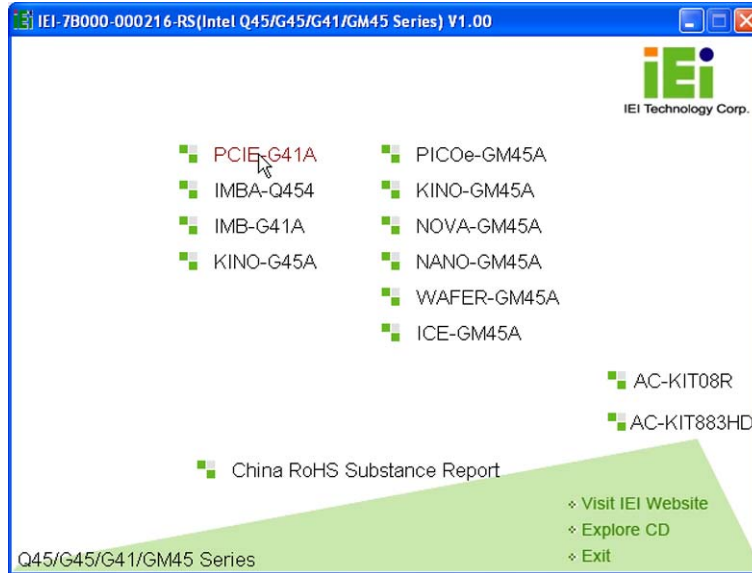

Figure 4-15: Introduction Screen
Step 2: The driver main menu appears (**Figure 4-15**).